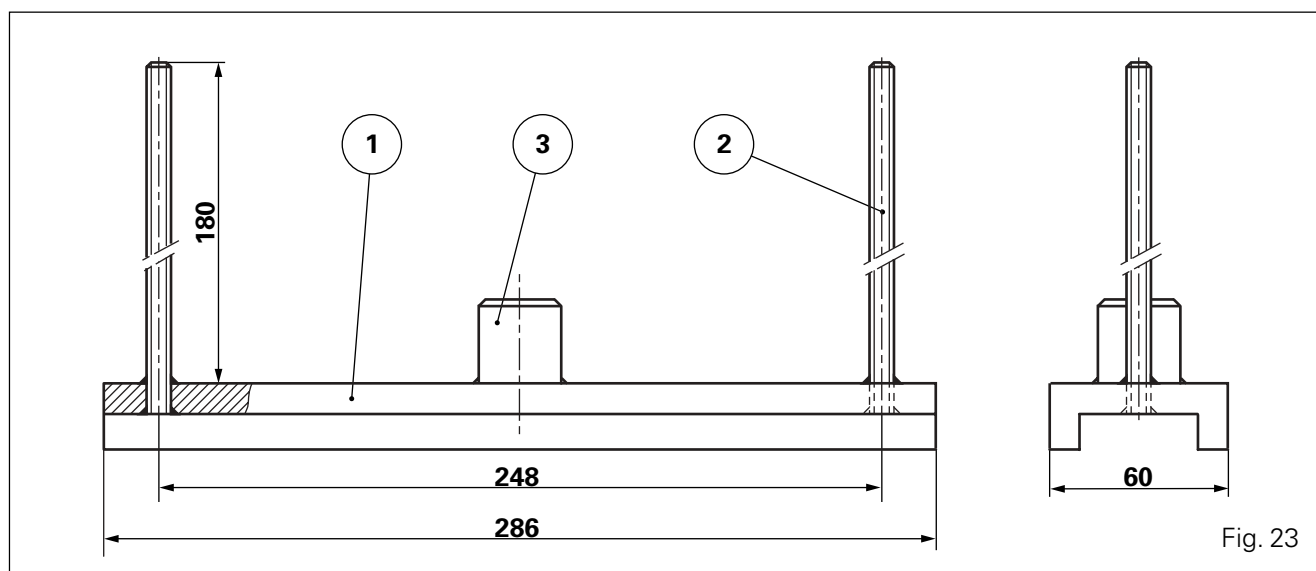

Fig. 23
- Belleville washer compression tool (Fig. 23)
(1) U iron profile: 60
(2) Threaded rod:  $\varnothing$  8
(3) Round iron machined with the following dimensions: